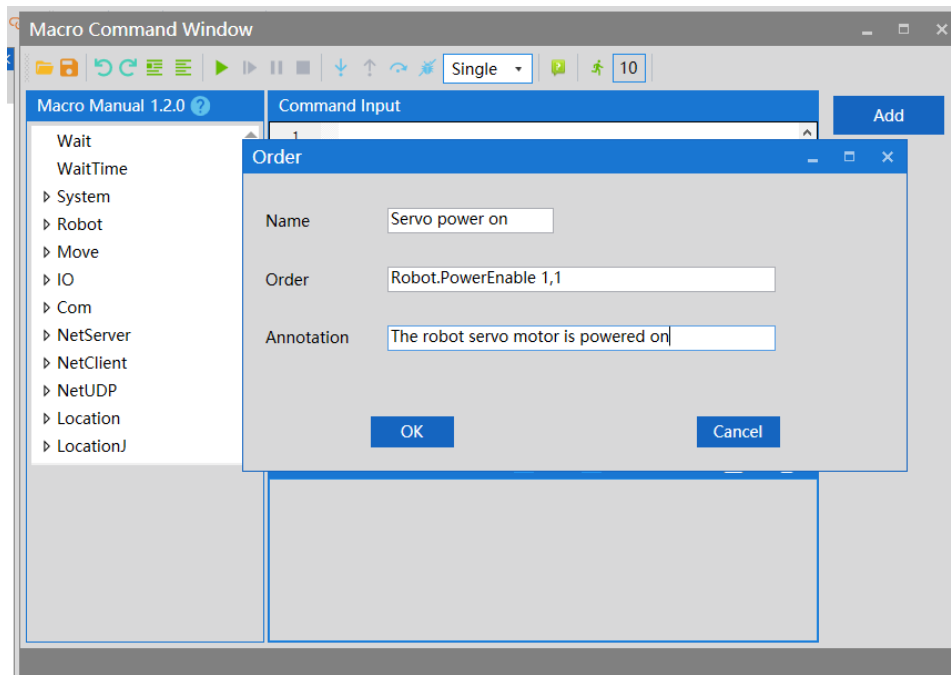

Figure 6-10 User defined editing interface (ARM)
- Step 2** Click the < add > button on the right to open the operation instruction dialog box. Type the instruction name "servo power on", the operation instruction content "robot. Powerenable 1,1" and the comment "robot servo motor power on" in the input box of the interface to edit the required instructions, as shown in Figure 6-10.